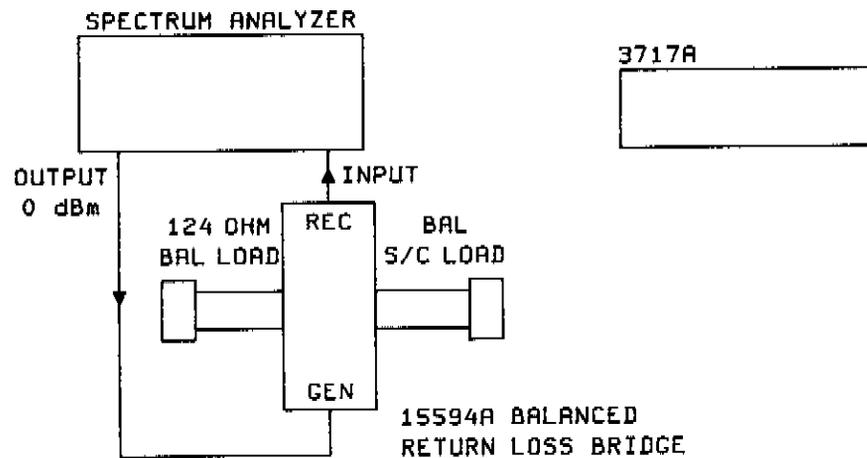

Figure 4-3 Balanced Return Loss Test
14. Connect the equipment as shown in Figure 4-3.